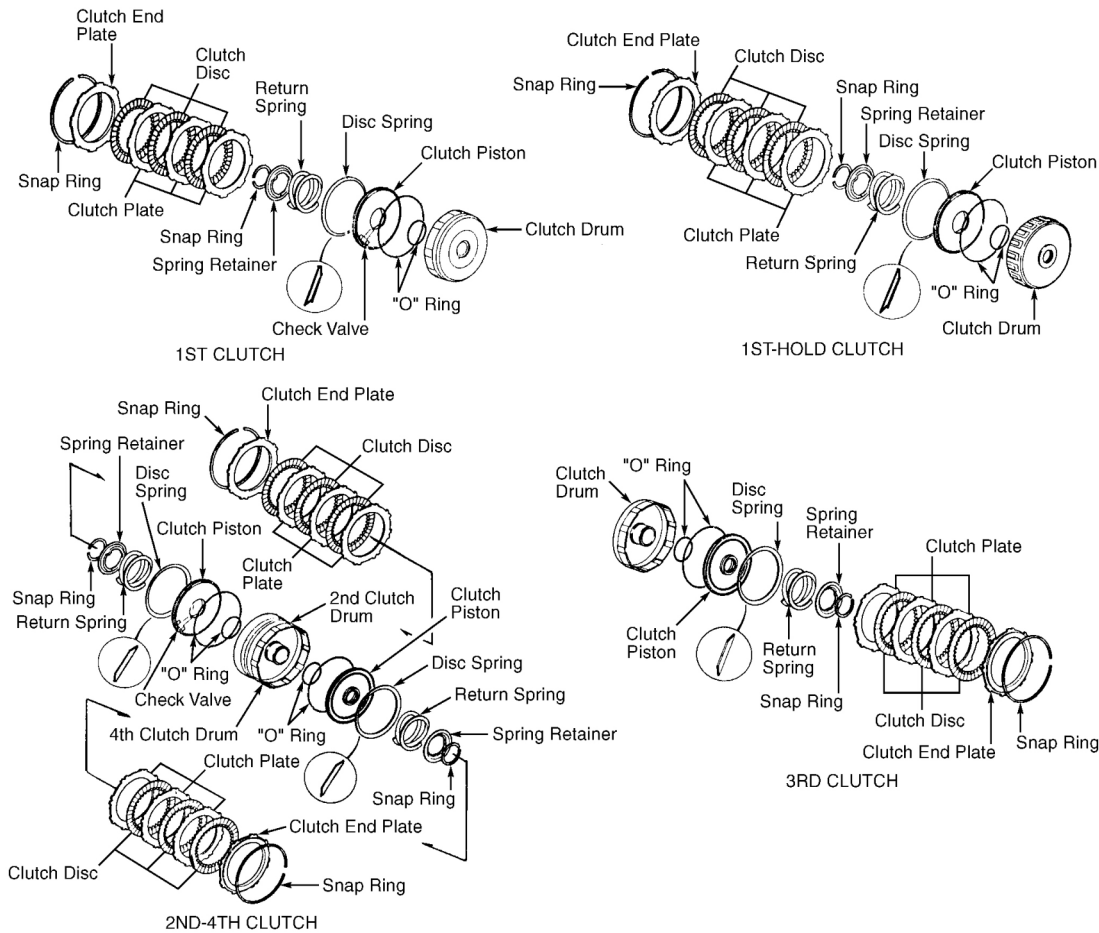

Fig. 22: Exploded View Of Clutch Assemblies
1. Remove snap ring, clutch end plate, clutch discs and clutch plates. See **Fig. 22** . Note direction of disc
3. Install disc spring. Ensure disc spring is installed in proper direction. See **Fig. 22**.